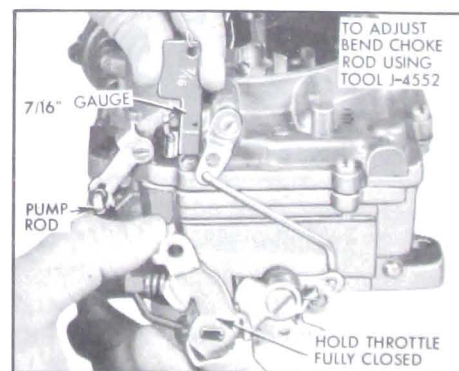

Figure 3-49—Pump Adjustment
3. Adjust Pump. Push fast idle cam aside and back out throttle stop screw until throttle valves seat in throttle bores. Measure from air horn to top of plunger shaft with scale. Bend pump rod at lower angle as required to obtain 7/16" measurement using Tool J-4552. See Figure 3-49. Turn throttle stop screw in (from fully closed throttle position) 3/4 turn which should provide an initial idle adjustment.